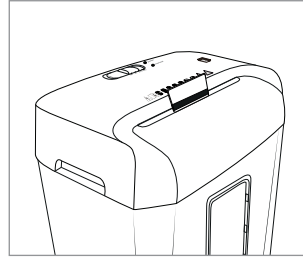

Fig. 3
- ◆ Insert the credit card from above into the middle of the cutter opening **8** (see fig. 3) and move the **REV/OFF/AUTO/FWD** switch **2** to the **FWD** ("forward") position. You can only shred one credit card at a time. Always insert the card into the cutter opening **8** with the wide side first. Otherwise, the magnetic strip will not be destroyed.